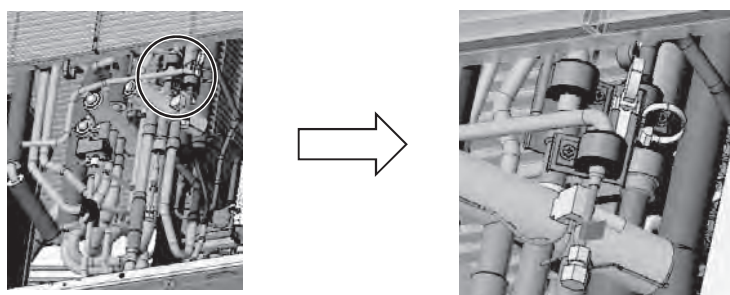

Figure 2
- (1) Remove the wiring and sheet metal. (Screwed down with four screws) (See Figure 2.)